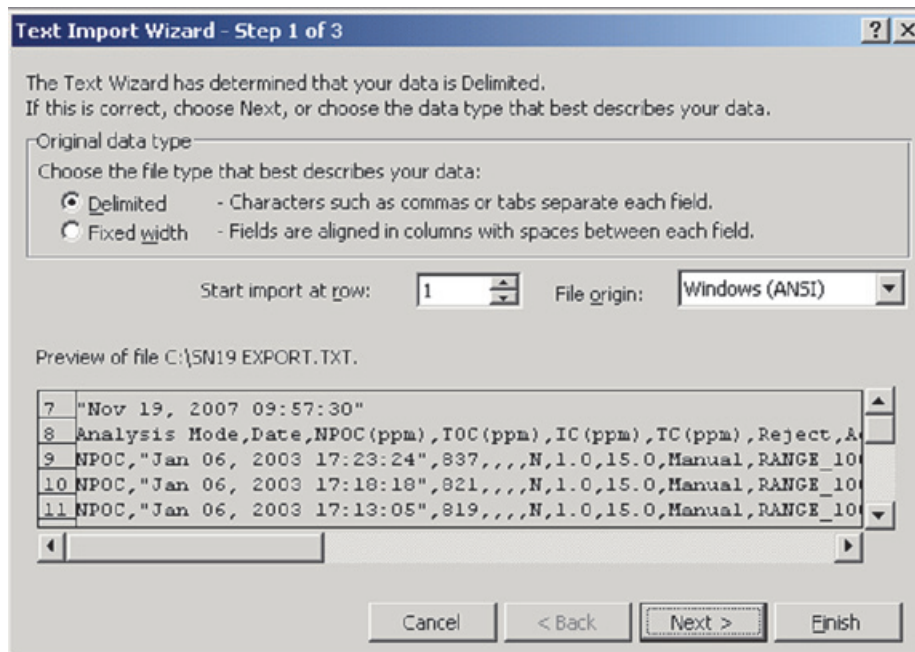

Figure 94: Excel Spreadsheet Program Screen — Text Import Wizard - Step 1
6. Depending on the version of Excel spreadsheet program you have, the program may automatically start the “Text Import Wizard” to help you create a spreadsheet from the data in the file. If the “Text Import Wizard” dialog box appears (Figure 94), make sure **Delimited** is selected and click the **Next** button.